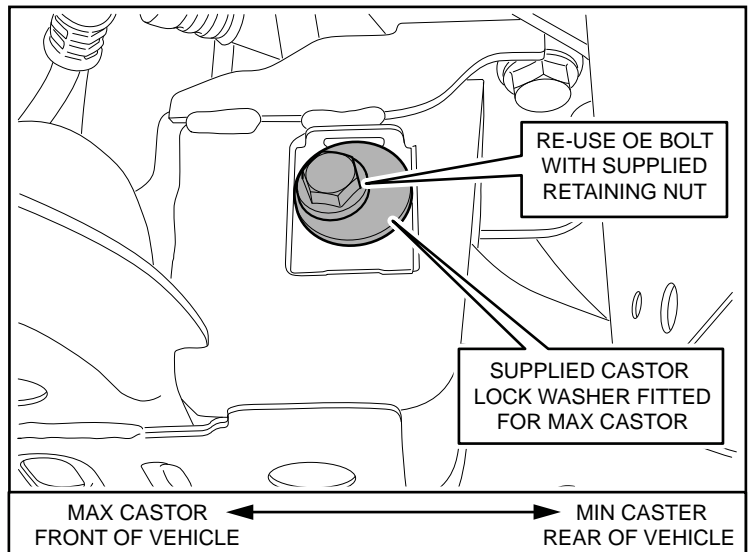
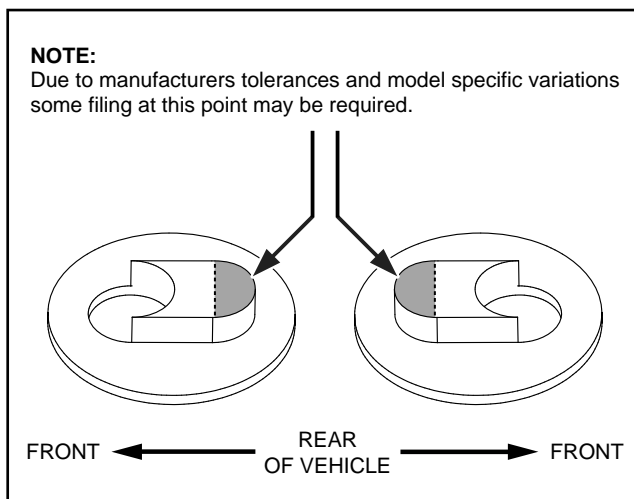
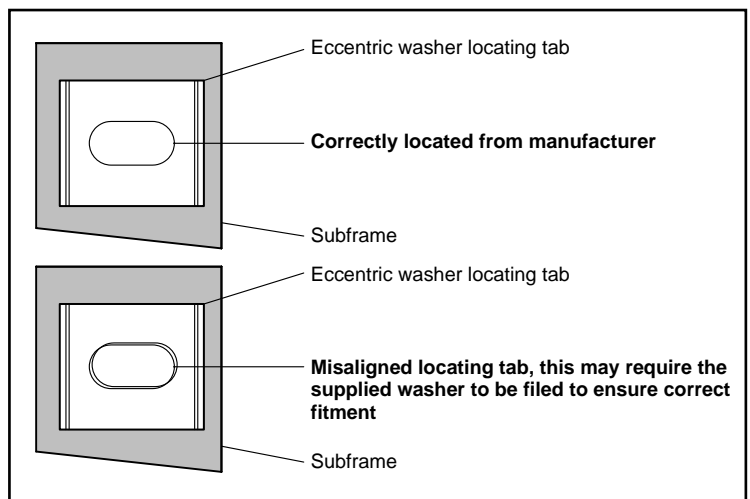

Fig.1
Fig.3
Fig.4
**NOTE:** if castor lock washer does not seat correctly (refer to fig.1) then please refer to step 4a below including Fig.3 and Fig.4
**4a.** Using suitable hand tools file the elongated chassis mounting point and /or the supplied washers as per Fig.3 and Fig.4 below.